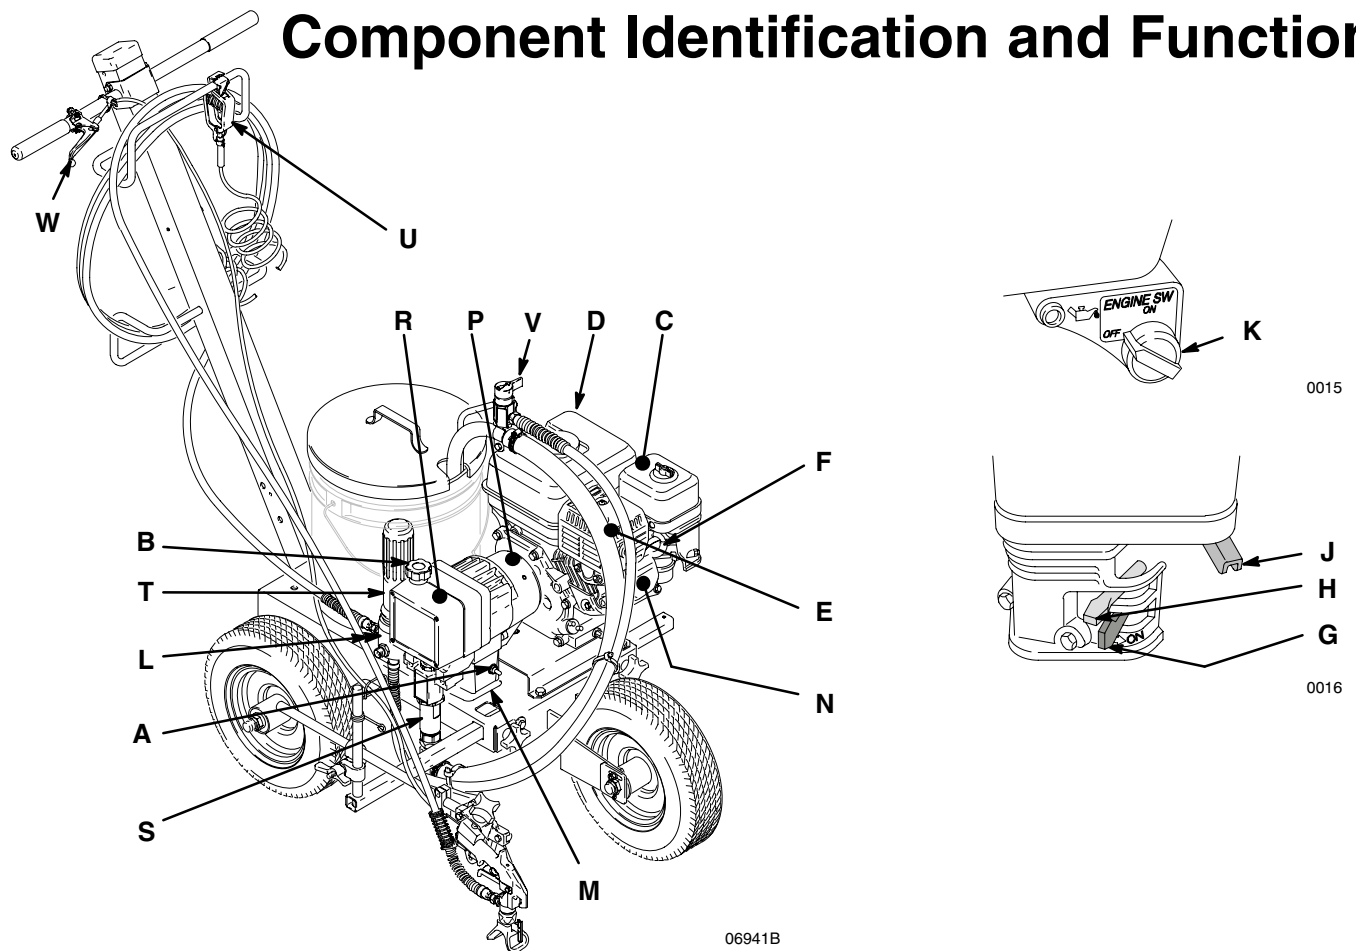

Fig. 1
8. **Keep the sprayer upright and level** during operation and whenever it is being transported. Set the fuel valve (G, Fig.1) to OFF.
**NOTE:** Refer to Fig. 1 as you start the sprayer.
3. **Detach pressure drain valve (V, Fig. 1) from suction tube** and place pressure valve drain tube in another bucket.